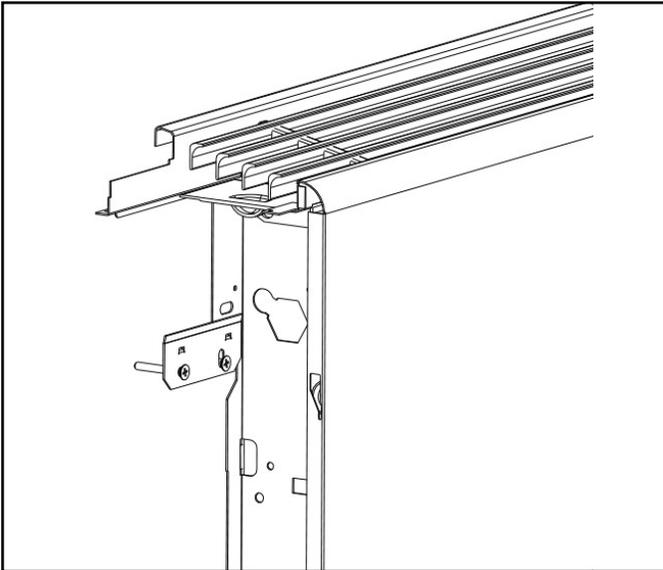

**Figure 9 - Mounting the Optional Feet**
b. Next, remove the screws and two (2) feet from the accessories bag.
c. Position the feet so that the screw holes A / B / C / D match up with the holes on the unit. See Figures 9 and 10.